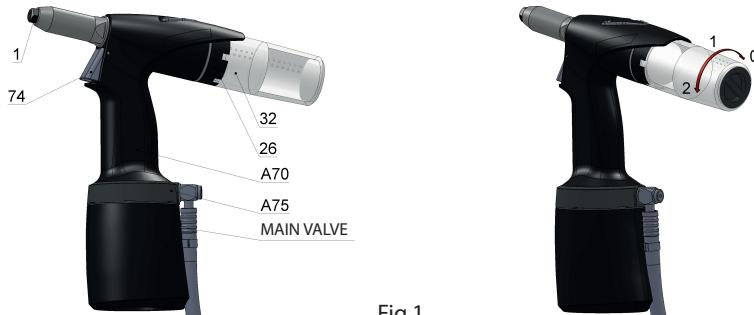

Fig.1
The manufacturer equipped the tool with a nose-piece /fig.1 – pos.1/ for a rivet $\varnothing 5,0$. Riveting with blind rivets of different diameters (further on referred to as BR) requires use of appropriate nose-pieces that are located in the accessories casing of the tool.
Replacement of nose-pieces: Connect the tool to the source of compressed air, depress the trigger and screw out the nose-piece /fig.1 – pos.1/ with a spanner no. 12. Screw on a new nose-piece /acc. to the chart/ and tighten it. Now you can release the trigger of the tool.
The tool is equipped with revolving air supply /fig.1 – pos.A75/ which enables manipulation with air supply before as well as during tool operation, air hose does not obstruct riveting in any position.
The tool is equipped with multifunction trigger /fig.1 - pos.74/ which enables following:
- Unlock the trigger (shifting the trigger down to the stop) and release it. The suction is switched on and the trigger is in position see fig. 1.
The tool is equipped with a multifunctional mandrel container /fig.1 - pos.32/ which has the following positions:
Put and push the mandrel container /fig. 1 - pos. 32/ into the ring relief /fig.1 – pos.26/ end-to-end, thus you depress the arrestment element, and turn to position 1 or 2. The mandrel container shall thus be in place. The suction shall initiate in position 2. Relative position of the mandrel container with air outlets /fig.1 - pos.32/ and the ring relief /fig.1 – pos.26/ ensures that the outlet air pressure goes out in a suitable direction (e.g. offward the operator of the tool).
Turn the mandrel container /fig.1 - pos.32/ end-to-end to position 0 and pull it out of the ring relief /fig.1 – pos.26/. The suction shall thus switch off.
Suction switches off by turning and removing the mandrel container /fig.1 - pos.32/. Insert BR into the riveting tool through the nose-piece hole. Depress the trigger to move the jaws offward the BR head. The movement ends when reaching max. stroke, correct BR with respect for material gauge shall tear off the shank (riveting) for one stroke of the tool. Releasing the trigger shall return the jaws to initial position and released torn-off shank can be removed from the nose-piece by tilting the tool. /fig.1 - pos.1/.
Mounting and turning the mandrel container /fig.1 - pos.32/ to position 1 shall arrest it. Insert BR into the riveting tool through the nose-piece hole. Depress the trigger to move the jaws offward the BR head. The movement ends when reaching max. stroke, correct BR with respect for material gauge shall tear off the shank (riveting) for one stroke of the tool. Releasing the trigger shall return the jaws to initial position and the released torn-off shank can be transported into the mandrel container by tilting the tool.
Suction switches on by turning the mandrel container /fig.1 - pos.32/ to position 2. In this position the suction holds BR in the nose-piece /fig.1 - pos.1/ which enables riveting in any position without danger of BR falling out of the nose-piece of the tool. Depressing the trigger shall perform riveting. Releasing the trigger shall transport the shank into the mandrel container. If the mandrel container